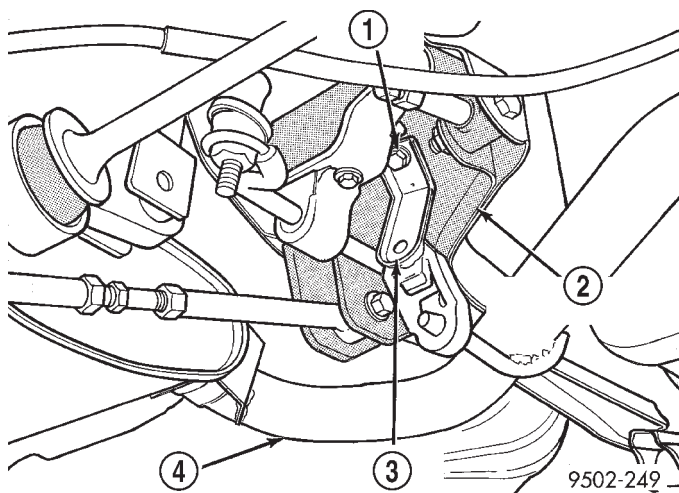

Fig. 23 Exhaust Pipe Hanger At Rear Suspension Crossmember
(5) Remove the rear exhaust pipe hanger bracket from the rear suspension crossmember (Fig. 23). Let exhaust system drop down as far as possible.
(6) On only the side of the vehicle requiring control arm removal, separate the control arm ball joint from the rear knuckle using following procedure.
(5) Remove transmission jack supporting rear suspension crossmember.
(6) Install muffler support bracket on rear frame rail (Fig. 22). Install rear exhaust pipe hanger on rear suspension crossmember (Fig. 23).